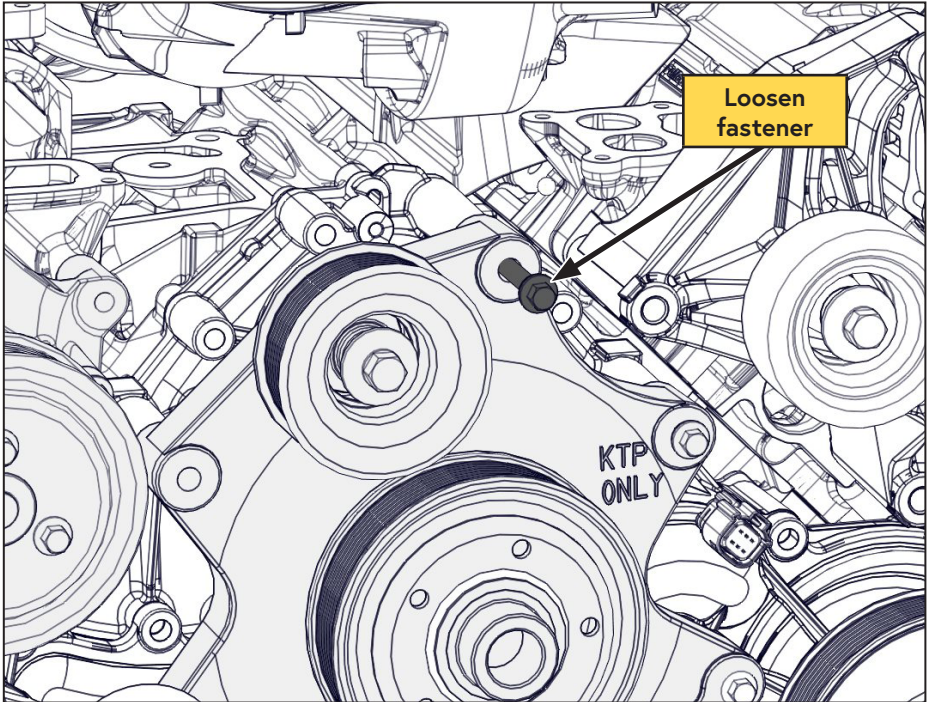

Figure 10 — Preparing for compressor installation
- Loosen the indicated "captive" fastener (Figure 10).